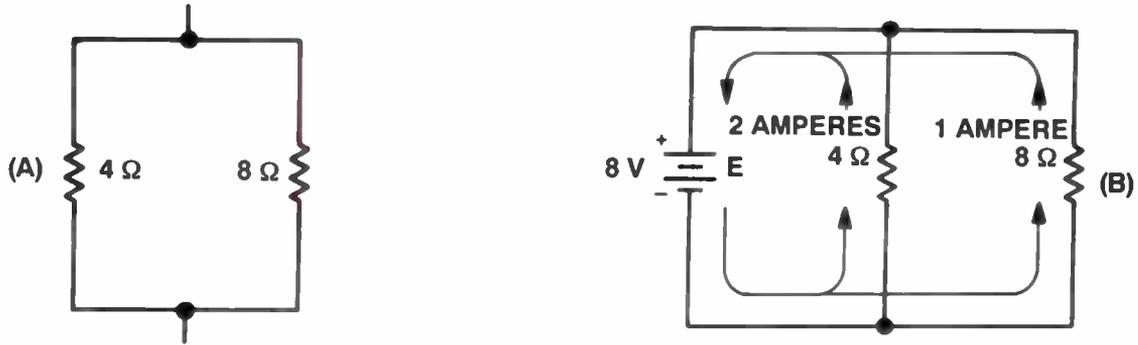

Figure 2. Finding the value of a 4-ohm resistor in parallel with an 8-ohm resistor.
**Unequal Resistances in Parallel.** What if the resistors are not equal in value? In Fig.2(A), on the next page, we have a 4-ohm and an 8-ohm resistor connected in parallel. In the circuit shown in Fig.2(B), these two resistors are shown connected to an 8 V battery.